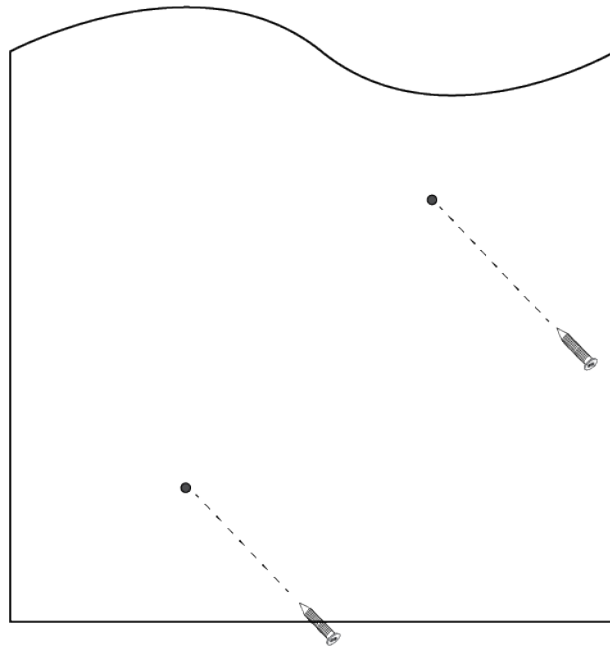

Figure 19. Installing Two Screws
5. Install two M4 screws and anchors (if required). Leave the screws loose enough so that the bracket can slide under the screw heads. Refer to Figure 19.